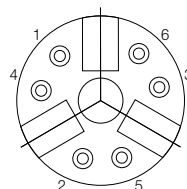

Fig.5
(Fig.5) 1→2→3→4→5→6
- (4) Mount the chuck to the spindle (back plate) Turn the joint handles so that the chuck is properly attached to the spindle mounting face of lathe. Uniformly tighten chuck mounting bolts in the order of 1,2,3,4,5 and 6 as shown in Fig.5
(Fig. 5)